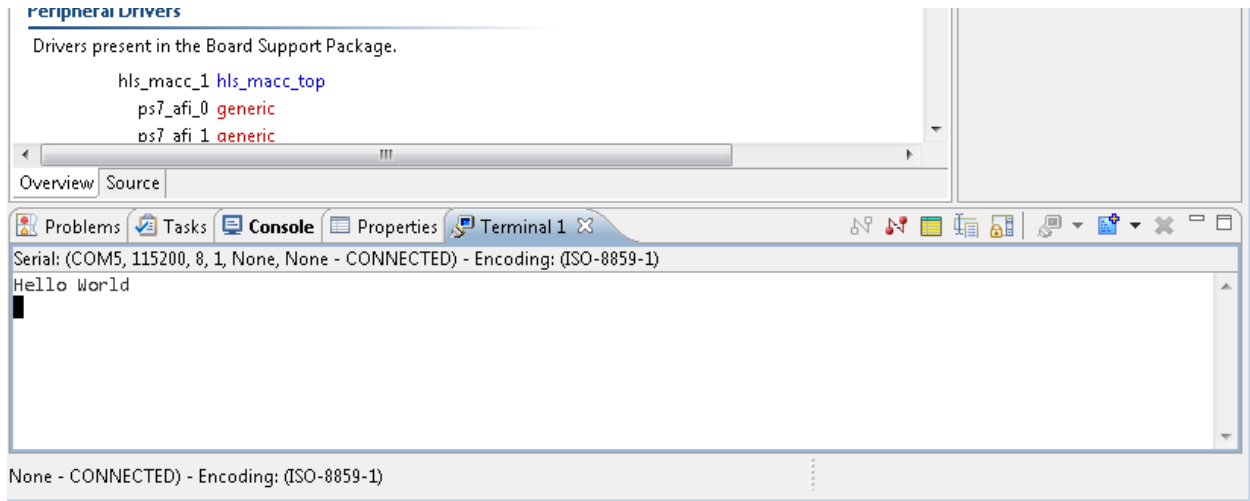

Figure 243: Console Output
13. Switch to the **Terminal** tab and confirm that “Hello World” was received (Figure 243).